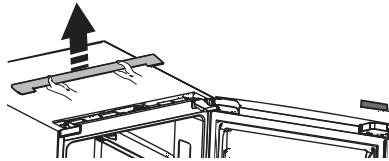

Figure 1
- 2 Pry off upper cover on top of unit using putty knife and remove (see Figure 1).